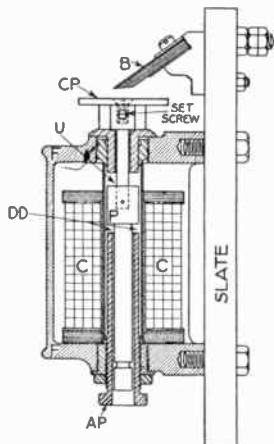
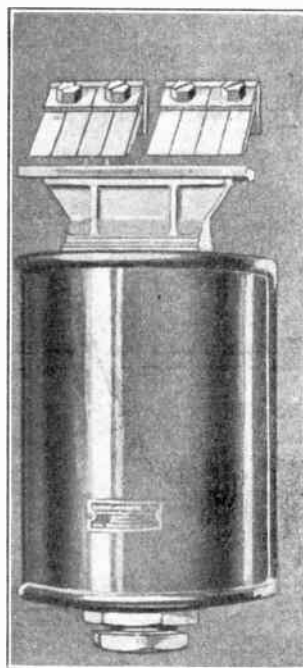

Fig. 6. Section of a motor starting solenoid showing the cylindrical case, coil, armature, and contacts.
Fig. 8. The complete solenoid in its case with its contacts to operate in starting a motor.
The experiment shown in Fig. 6 proved that glass is a fair conductor of electricity when hot. The tin foil coating was removed from the glass in two longitudinal strips, thus leaving two separate tin foil plates on the bulb. A battery of 180 volts was connected to one plate and one side of the milliammeter. The other side of the milliammeter was connected to the other plate, and the lamp was then connected to the 110 volt line. In about five minutes, which was the time required to heat the glass, a current of two milliamperes passed through the meter. On opening the filament circuit, the current gradually died down to zero as the glass cooled.
Fig. 8 shows another circuit used for reproducing speech in the loud talker. In this case a coil of wire was wound around the lamp through which the speech currents in the microphone circuit passed. The words were clearly reproduced in the loud talker, but with no amplification.
Figure 6 illustrates the cross section of the automatic motor starter based on this principle. It is shown mounted on a slate panel. It has the iron framework (FF) and a plunger (P). It will be observed that the plunger (P) is narrower at the bottom than at the top and forms two air
By adjusting the size of the air gaps (DD) we can set the value of the current at which we desire the plunger to be lifted. These adjustments are effected by means of an adjusting plug (AP) at the bottom of the framework, seen in Figure 6. This plug is seen to be threaded and hollow, the plunger (P) fitting inside it loosely. By screwing the adjusting plug (AP) up, the hollow iron tube moves upward and thus decreases the air gaps (DD). By screwing it downward, the air gaps (DD) are increased in size. In this way the device can be adjusted to operate at any particular current value desired, which current value can be read by an ammeter placed in series with the coils (CC).
nated three of these electromagnets schematically. Referring back to Figure 6, we see that the plunger carries a contact plate (CP). Directly above the contact plate will be seen two laminated brushes (B₁), more obvious in the photograph of Figure 8. When the plunger is lifted the contact plate connects these brushes and short circuits the coils above each solenoid. The starting resistances are designated by (R₁), (R₂) and (R₃) and are connected across the brushes and magnet coils as shown. It will be observed that the last magnet has a small shunt coil (SHC), the purpose of which will appear later. The manner in which this starter operates is now as follows: